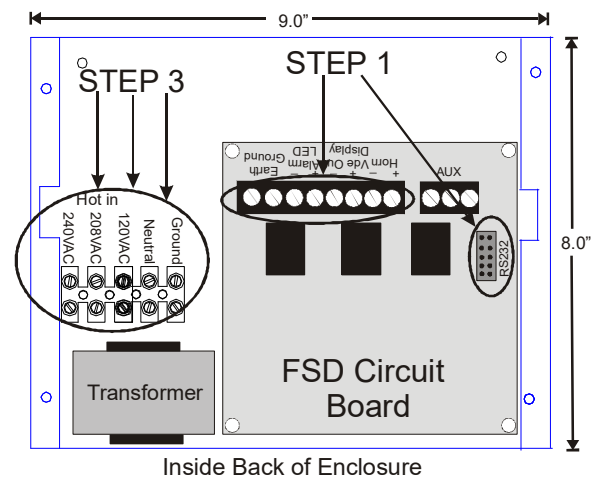

Figure 2 - Inside Back of Enclosure
STEP 1: Using the four screws on the front of the mounting plate, unscrew the cover of the FSD and remove, exposing the back of the enclosure. Once the top has been separated from the back of the enclosure, unplug the 8-pin connector and RS232 cable (**Step 1 of Figure 2**) from the circuit board (P/N 537-1100).
STEP 3: Once the unit has been mounted, depending on the voltage input, wire either 120VAC, 208VAC, or 240VAC Hot leg to the corresponding terminal block label. Then wire the Neutral or L2 leg to the terminal block labeled Neutral. Wire Ground to Ground as indicated by **Step 3 of Figure 2**.